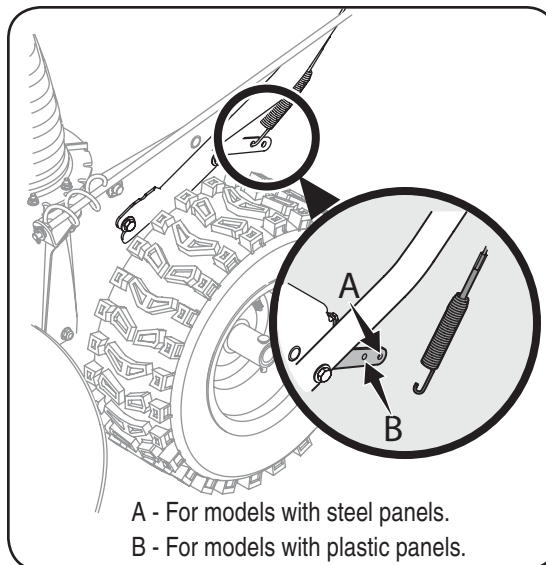

Figure 3-12
- When the auger control is released and in the disengaged “up” position (see Figure 3-11B), the cable should have very little slack, but should NOT be tight. See Figure 3-12.
- To readjust the control cable, unhook the spring (found on the end of the auger cable) from the auger actuator bracket. See Figure 3-12.